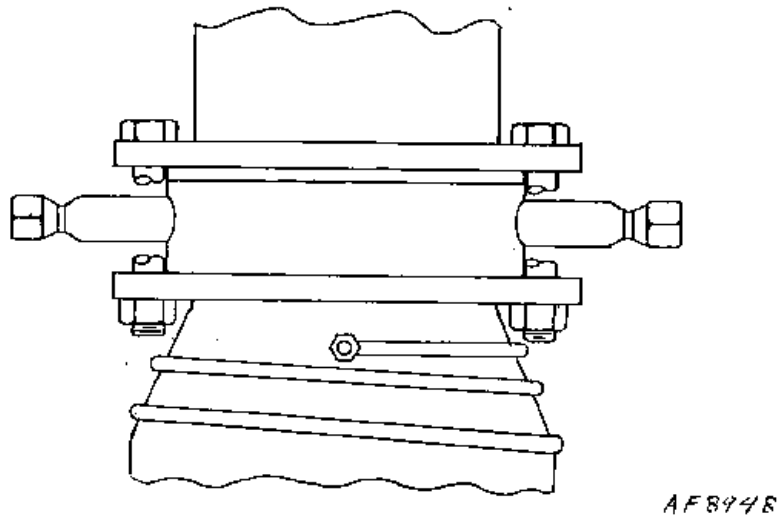
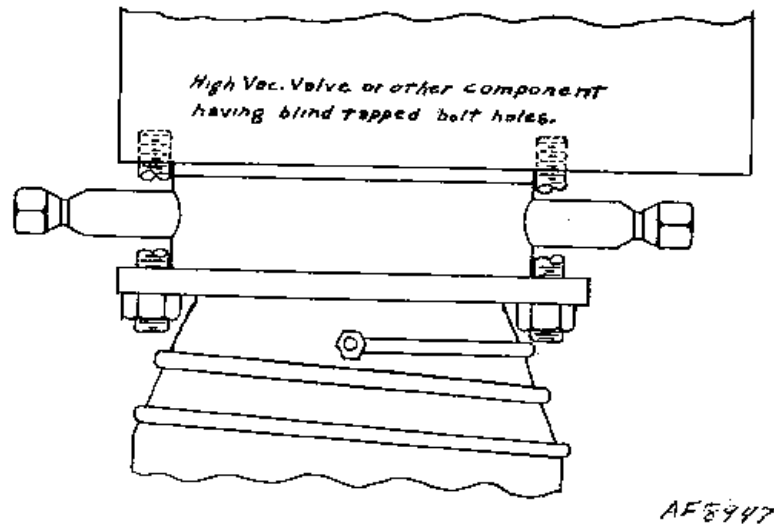

Figure 1 Typical Installation
Figure 2 Typical Installation Requiring Threaded Studs
3. Position the baffle, normally, horizontally with the O-ring groove side up. Positioning and centering of the baffle on the diffusion pump flange is automatic since the baffle O. D. is slightly smaller than the bolt circle clearance (Figure 1).
4. In some applications, such as installation between VHS series *bulge* diffusion pumps and high vacuum valves which have blind tapped bolt holes, threaded studs may have to be used instead of common bolts. See Figure 1 and Figure 2 for typical installations.